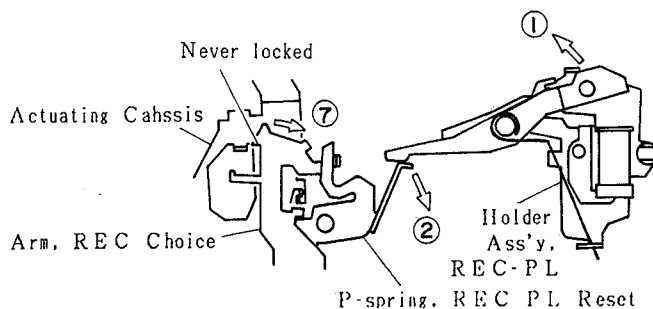

Fig. 24-1
In the PLAY mode, the levers are activated in the direction of arrows ①, ②, and ⑦ respectively so that the Actuating Chassis can never be locked at the point shown in Fig. 24-1.